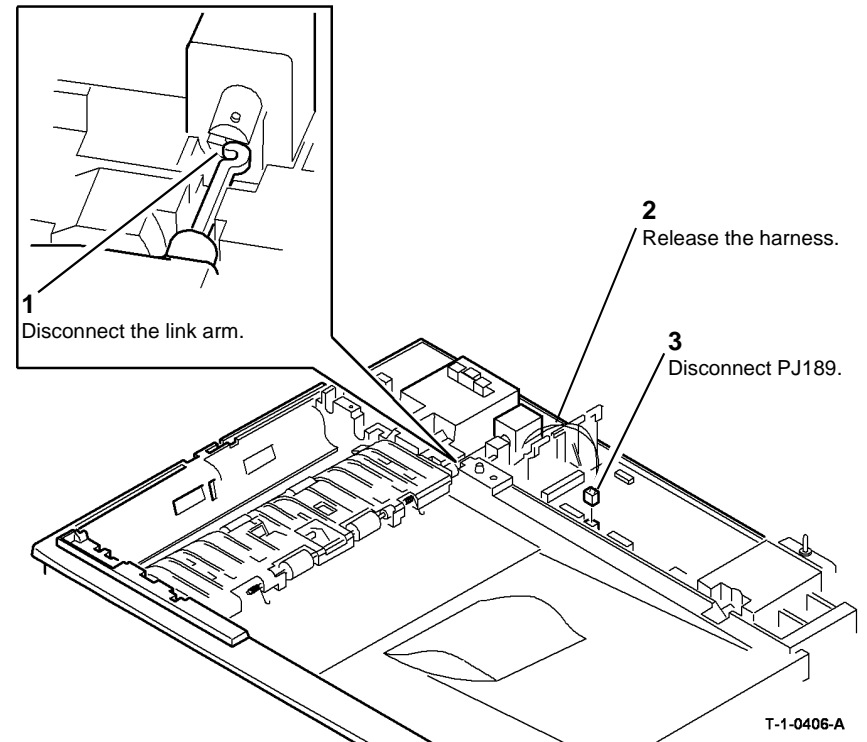

Figure 1 Preparation
6. Prepare to remove the baffle assembly, Figure 1.